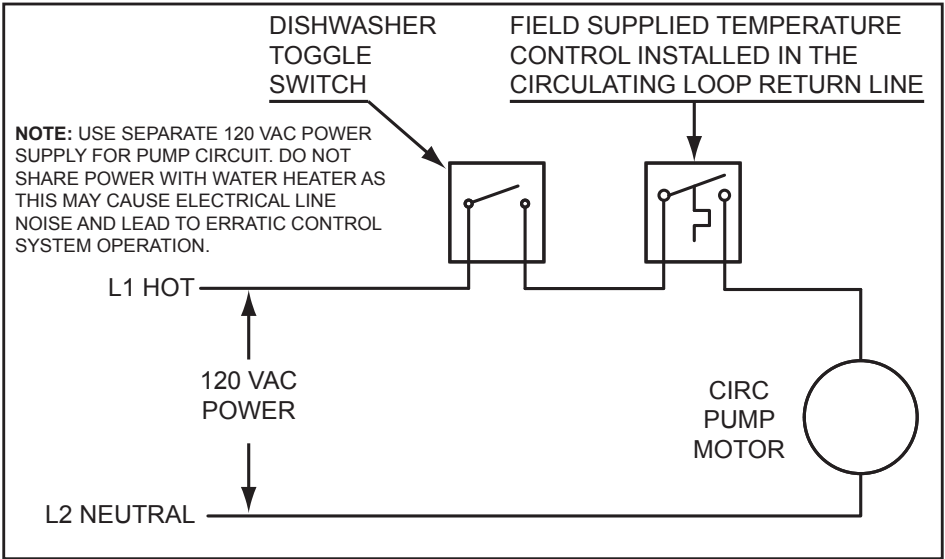

Figure 69. Circulating Pump Wiring Diagram - Dishwasher Loop Toggle Switch
7. If a pump is being installed in a recirculation loop between the water heater and a commercial dishwasher wire according to *Figure 69* (page 71).
- 7. If a pump is being installed in a recirculation loop between the water heater and a commercial dishwasher wire according to *Figure 69* (page 71)..